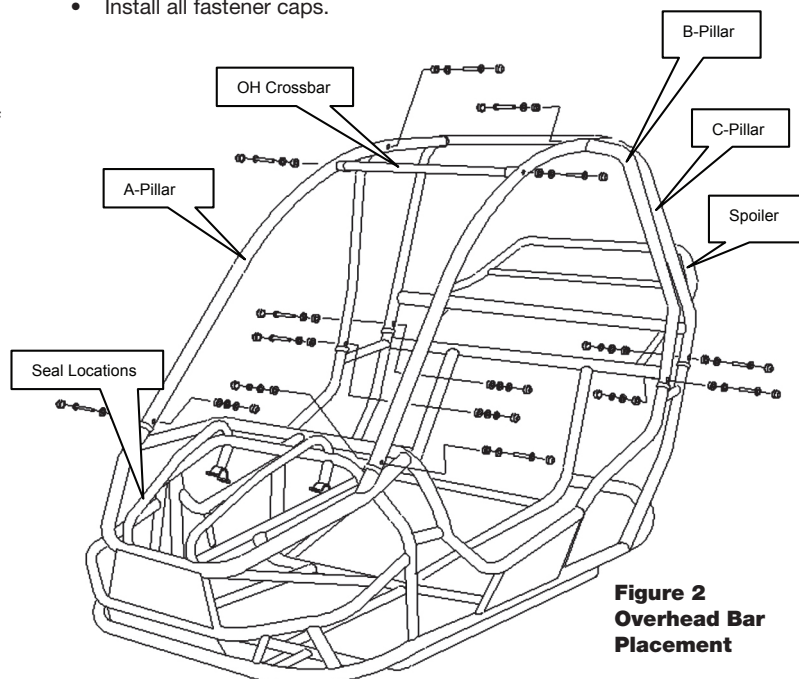

Figure 2
- Locate the C-Pillar and fasteners: (2) 14086, (4) 14087, (4) 14944 and (2) 14088. (Reference Fastener Illustration on page 2.)
- Locate the rubber connector seals (6) 14942, and rubber fastener caps (20) 14946 packaged in the customer hardware kit.
- Slip the connector seal on the ends of each overhead bar where it will connect to the main frame (ref Figs 2 and 3)
- Locate the A-Pillars and fasteners: (4) 14086, (6) 14087, (6) 14944, and (2) 14088. Install the connector seals as shown on the diagram below.
- Locate the Overhead Cross Bar and fasteners: (2) 14086, (2) 14087, (2) 14944.
- Locate the B-Pillars and fasteners: (4) 14086, (6) 14087, (6) 14944, and (2) 14088.
- Locate the rear Spoiler, spoiler supports and fasteners: (2) 14086, (2) 14087, (2) 14944, (4) 14239 and (6) 14088.